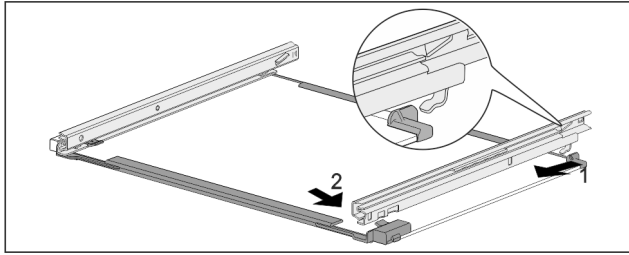

Fig. 168 Glass shelf with rails
- ▶ Hook in rail at the back. Fig. 168 (1)
- ▶ Hook in rail at the front. Fig. 168 (2)